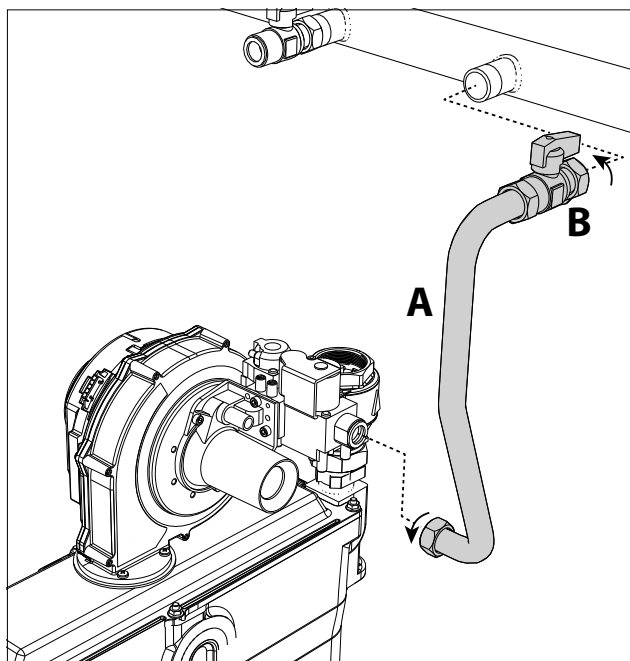

fig. 80
5. Loosen the swivels and disconnect the gas pipe "A" together with the cock "B" (fig. 80).